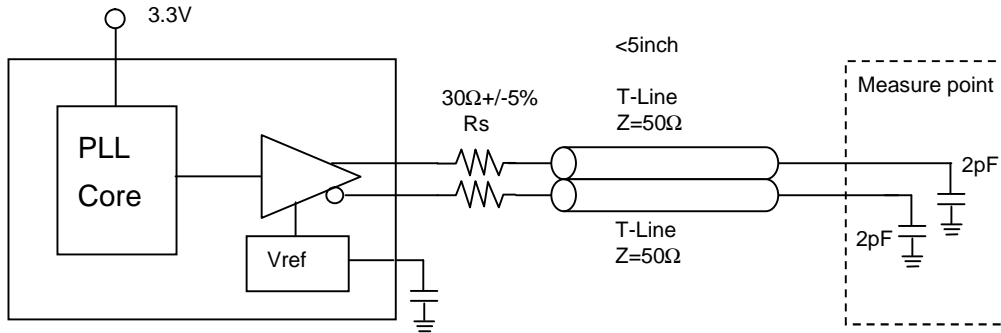
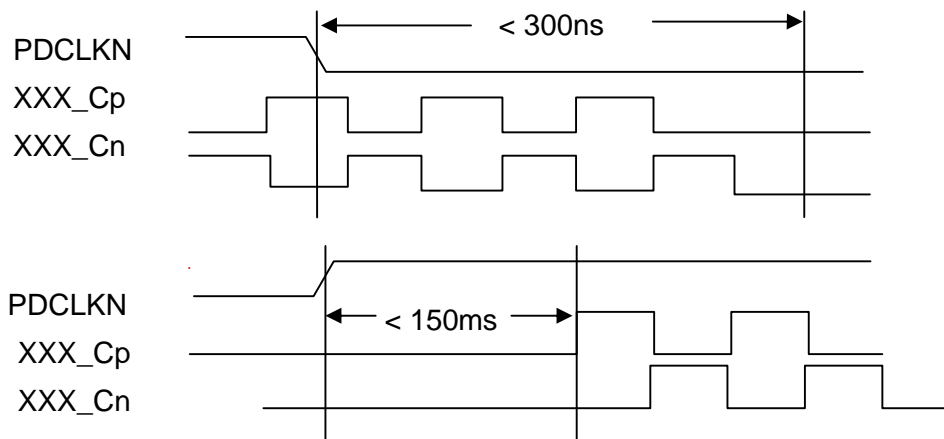

Figure.1 Diff Clocks Load condition
Figure.5 Power Down Sequence
(2)Diff CLK pins: Figure1, REFOUT:Cpl=25pF
(1) 1000 sampling or more
(2) Measured with load condition shown in Figure.1
(3) Measured with load capacitance of 25pF
(4) Refer to Figure.5 on Power down sequence